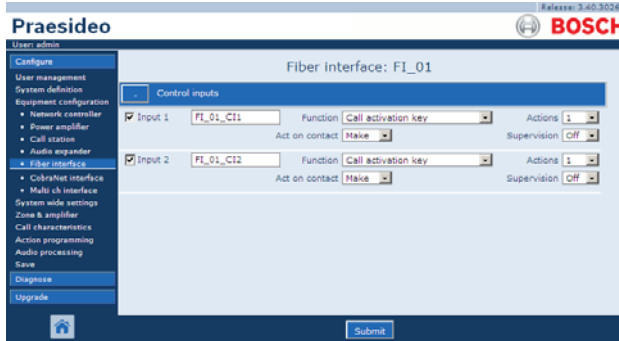

figure 43.33: Configure fiber interface, step 2
- 2 Click the name of the fiber interface that must be configured. A screen similar the one in figure 43.33 appears in the main frame of the web interface.